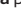

Fig. 128 Multifunction steering wheel: button to change the driving profile.
- **OR:** Briefly press the  >>> **Fig. 128** (arrow) button to change the driving profile. Press and hold the  button to access the **Cupra** profile directly.